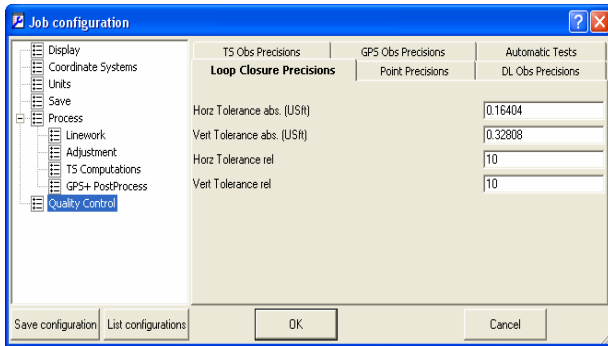

Figure 2-36. Job Configuration – Loop Closures Tab
- The *Loop Closures* tab sets the horizontal and vertical tolerances for loop closures (Figure 2-36).